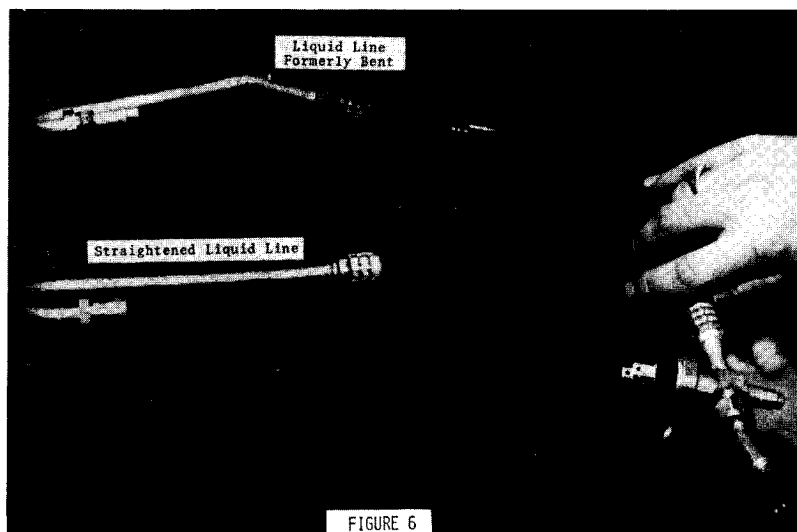

FIGURE 6
5. Remove liquid line from receiver dehydrator and straighten as shown in Figure 6.